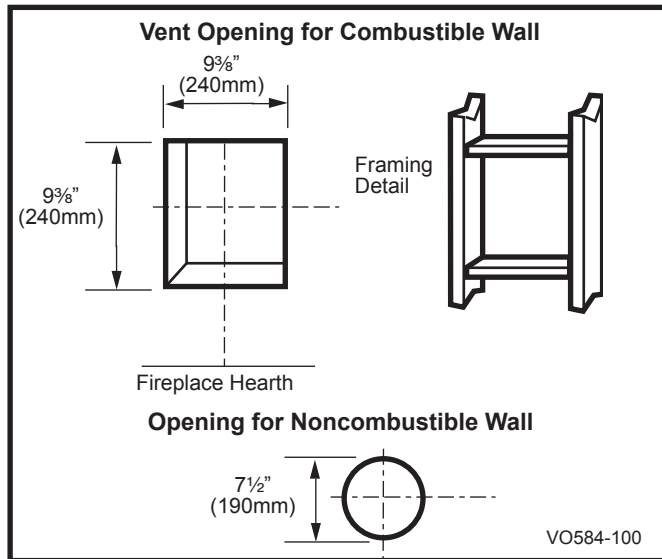

Fig. 20 Locate vent opening on wall.
Locate vent opening on the wall. It may be necessary to first position the fireplace and measure to obtain hole location. Depending on whether the wall is combustible or noncombustible, cut opening to size. (Fig. 20)
Combustible Walls: (Fig. 20) Cut a 9 5/8" H x 9 5/8" W (240 x 240 mm) hole through the exterior wall and frame as shown.
Noncombustible Walls: (Fig. 20) Hole opening must be 7 1/2" (190 mm) in diameter.
1. Establish vent hole through the wall. (Fig. 20)